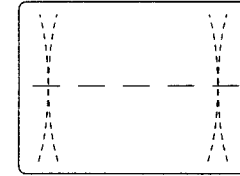
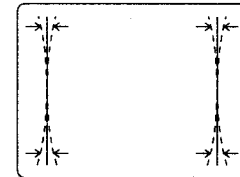

fig. 2.5A
fig. 2.5B
3. Select adjustment item 05 CC5 with buttons 2 or 8.
5. Select adjustment item 03 PT5 with buttons 2 or 8.
6. Watching the second vertical line in from both sides of the screen (figure 2.5A), make any upper and lower distortion symmetrical using buttons 4 or 6.
7. Select adjustment item 02 PA5 with buttons 2 or 8.
8. Adjust the straightness of both vertical lines (figure 2.5B) using buttons 4 or 6.